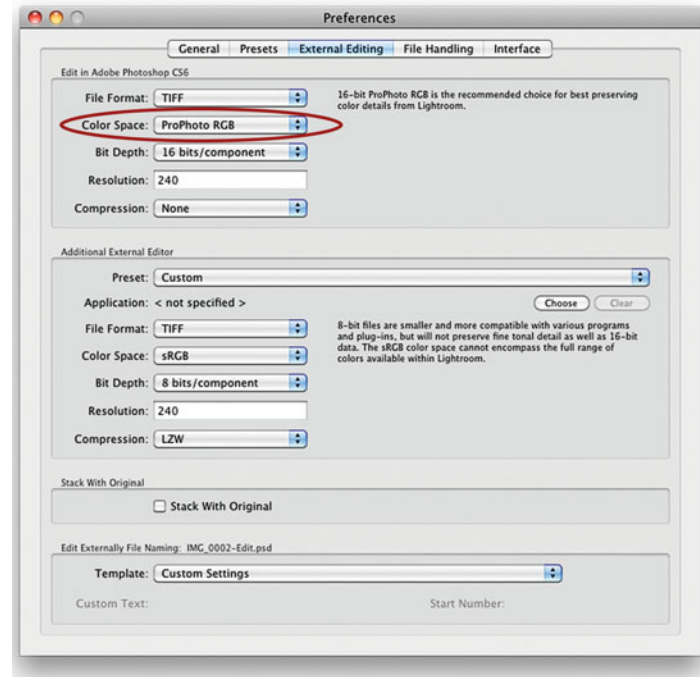

FIGURE 6.27 External Editing section of Preferences window in Lightroom with ProPhoto RGB selected as the color space.
3. **External Editing of images**—Image data is converted to the profile set in **Lightroom > Preferences > External Editing > Color Space** pull-down menu shown in Figure 6.27.